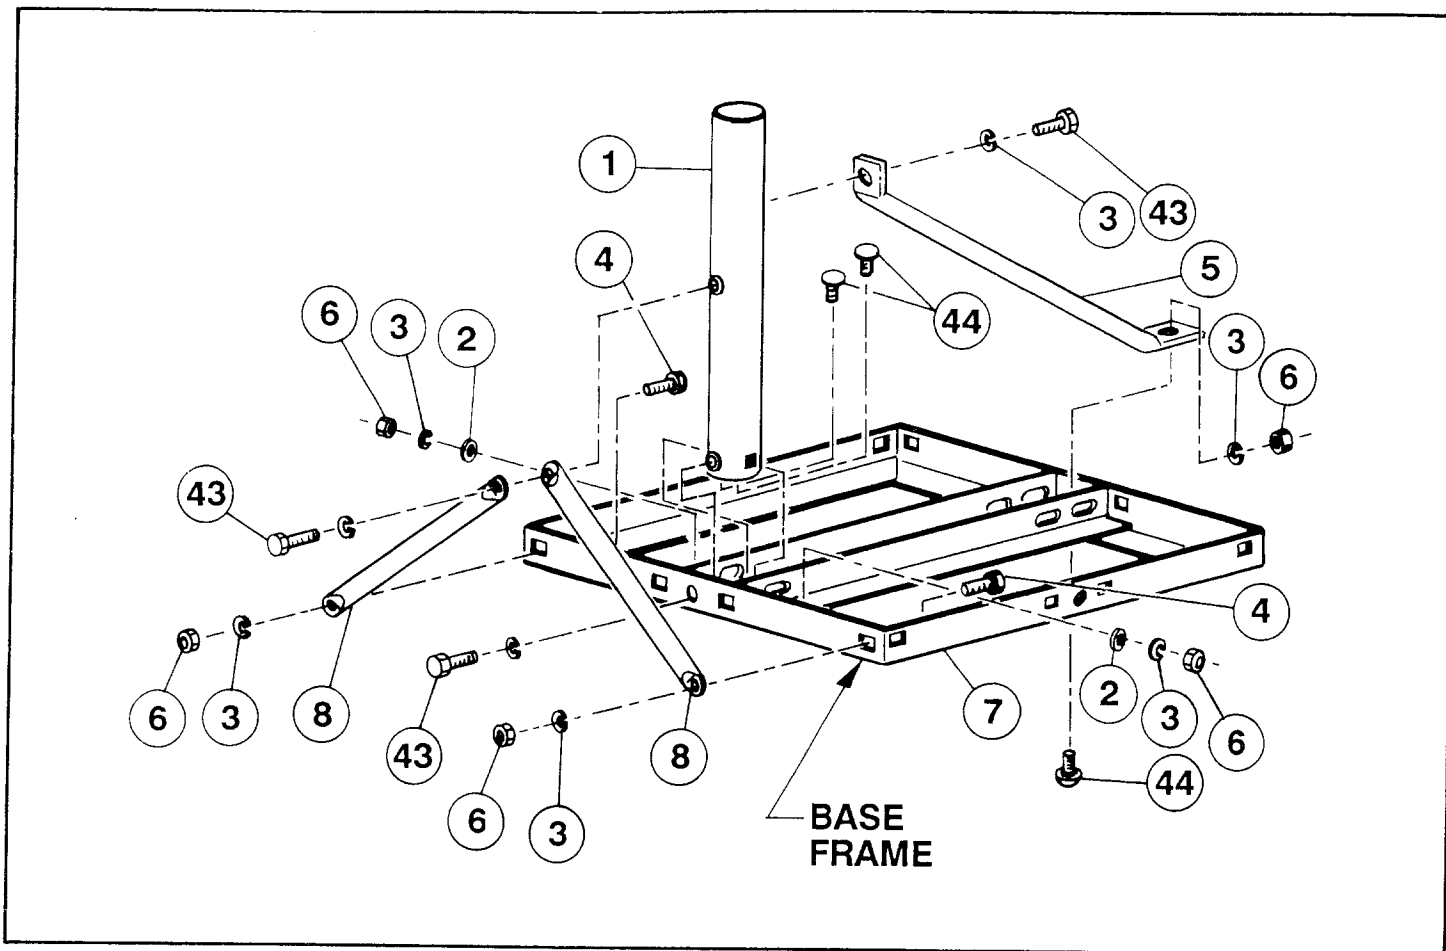

FIG. 1.1 - NON-PENETRATING POLE MOUNT, MODELS 6523, 6920 & 6922
Swing side braces (8) down and align holes in braces with holes in base frame (7). Secure with two M8 x 20 hex bolts (4), lock washers (3) and hex nuts (6). Refer to Fig. 1.1 Do not tighten.
Assemble rear brace (5) to mast (1) and base frame (7) as shown in Figure 1.1. Secure with one M8 x 25 hex bolt (43) and lock washer (3). Secure rear brace to base frame with one M8 x 25 Rd HD Sq NK (44), lock washer (3) and hex nut (6) as shown in Figure 1.1.